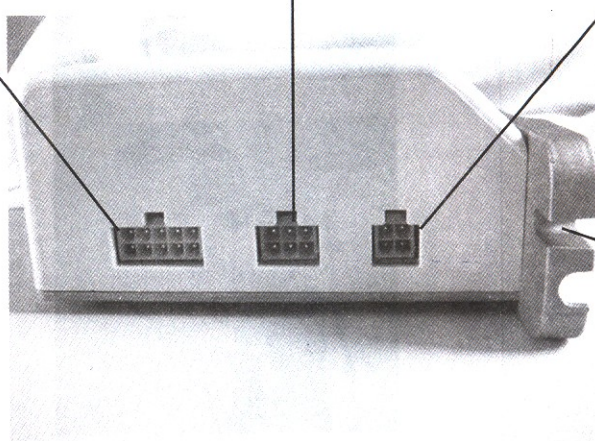

Figure 13
D. Connecting the system (Figure 13)